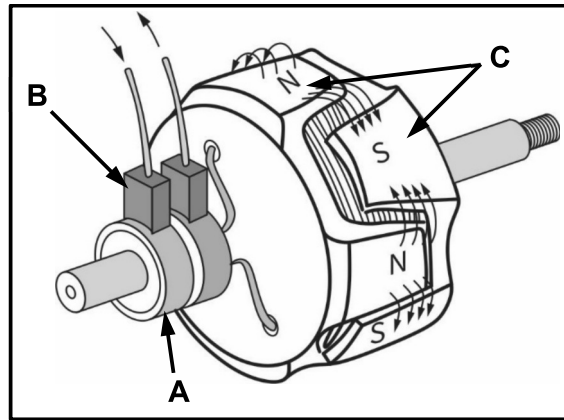

FIGURE 10.8
- 10.8 FIGURE 10.8 below shows the rotor of an alternator. Answer the questions that follow.